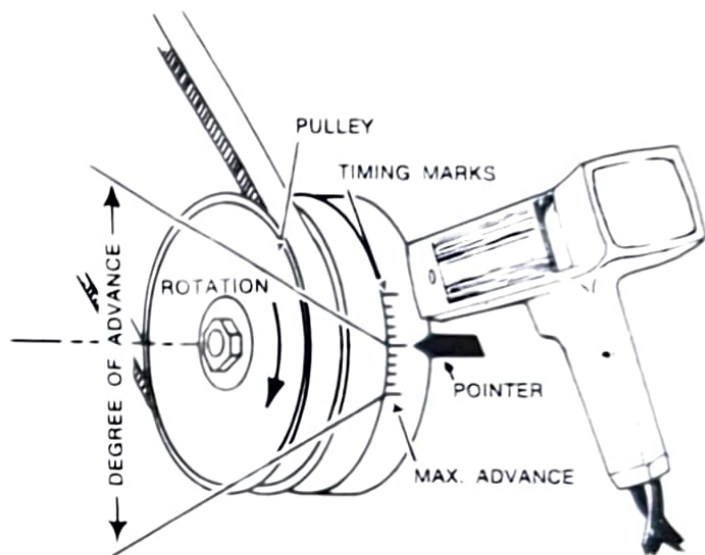

Figure 4
6. Start engine and operate at normal idle speed. See figure 4.
3. Direct timing light flash at timing marks and slowly rotate distributor right and left until timing marks are aligned with pointer. See figure 4. Stop engine.
2. The timing mark should remain stationary until the engine reaches the manufacturer's specified speed. The timing mark should then move steadily and without jerking. (See figure 4.)